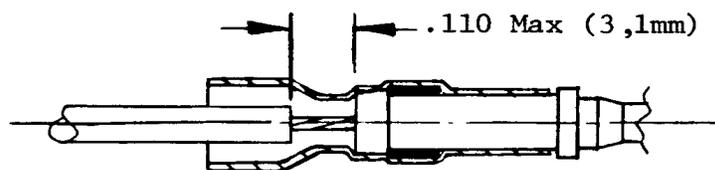

FIGURE 3
4.2.1 Insert conductor into D-610-09/-10 contact until it bottoms. See Figure 3.